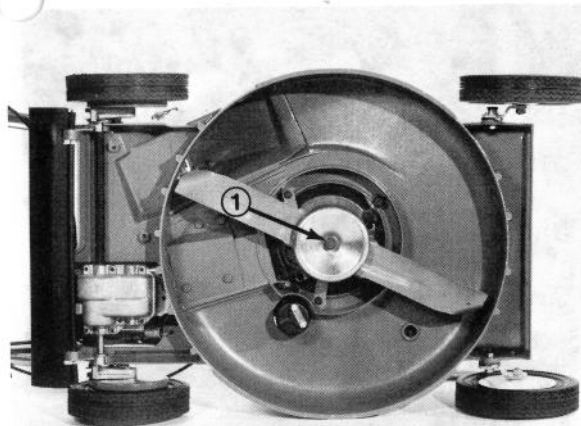

Figure 38
4. Grasp end of blade using a rag or thickly padded glove. Using a socket or wrench, remove capscrew, lock washer and blade (Fig. 38).
5. Using a file, sharpen cutting edge at both ends of the blade (Fig. 38).